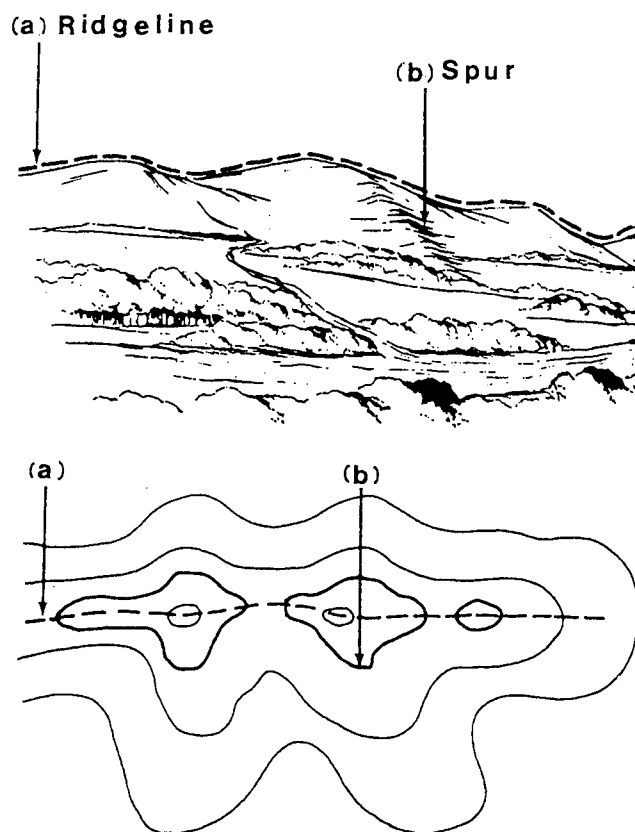

Figure 5-13.—(a) Ridge; (b) Spur.
4. **RIDGE.** Normally, a ridge is a line of high ground with minor variations along its crest. (See fig. 5-13, views A and B, top and bottom.) The ridge is not simply a line of hills; all points of the ridge crest are appreciably higher than the ground on both sides of the ridge.
5. **SPUR.** A spur is a short, continuously sloping line of higher ground normally jutting out from the side of a ridge. (See fig. 5-13, views A and B, top and bottom.) A spur is often formed by two roughly parallel streams cutting draws down the side of a ridge.